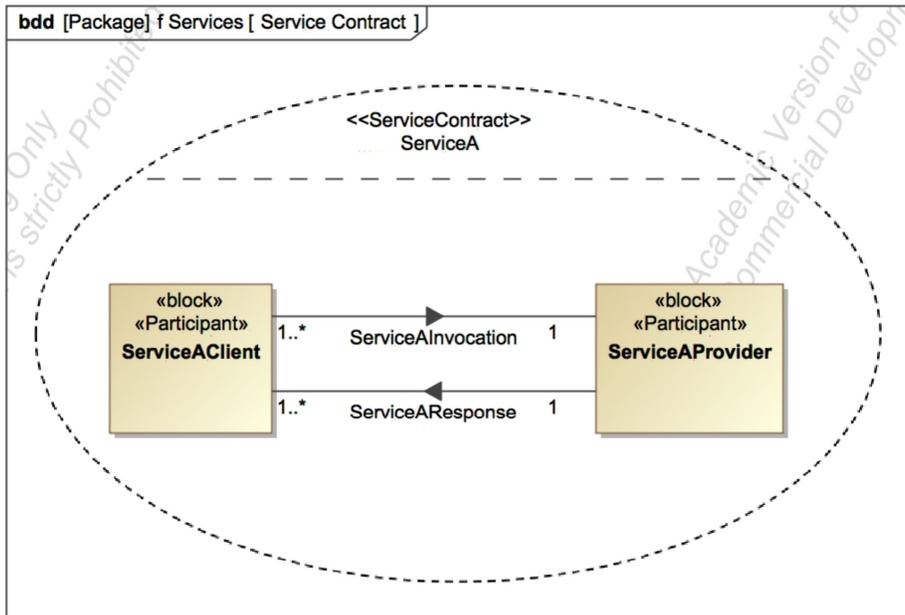

Figure D3. Simple Provider/Client Service Contract
- Once Participants and Interfaces are defined, they can be used to model the use of services in a SOA. Fig. D3 shows a very basic situation in which Provider and Client Participants exchange service invocation and response. The Collaboration Symbol (dashed oval) models the fact that these Participants operate within a Service Contract to exchange Service A.